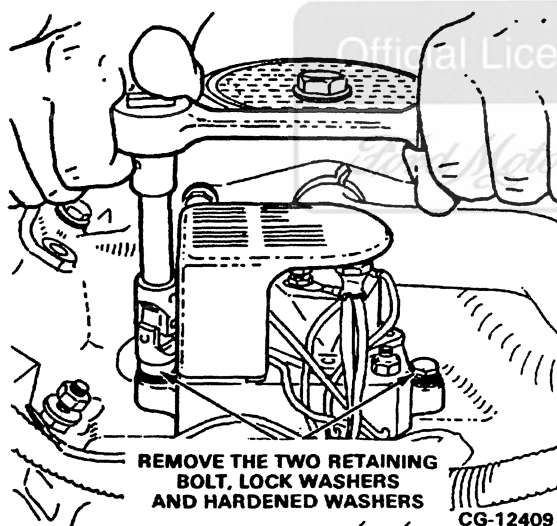

Figure 9.52. Glow Plug Controller Removal
5. Remove the engine mounted glow plug control unit by removing the two bolts and washers which fasten the control unit to the intake manifold. Refer to **Figure 9.52**. Lift the control unit (with harness from the engine). Pay attention to harness routing for reassembly.